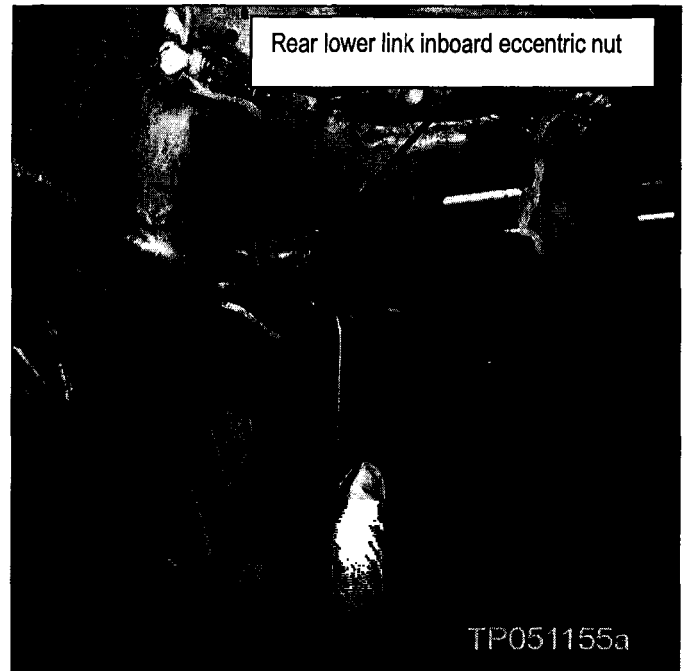

Figure 24
c. Loosen (but do not remove) the rear lower link inboard eccentric nut (see Figure 24).